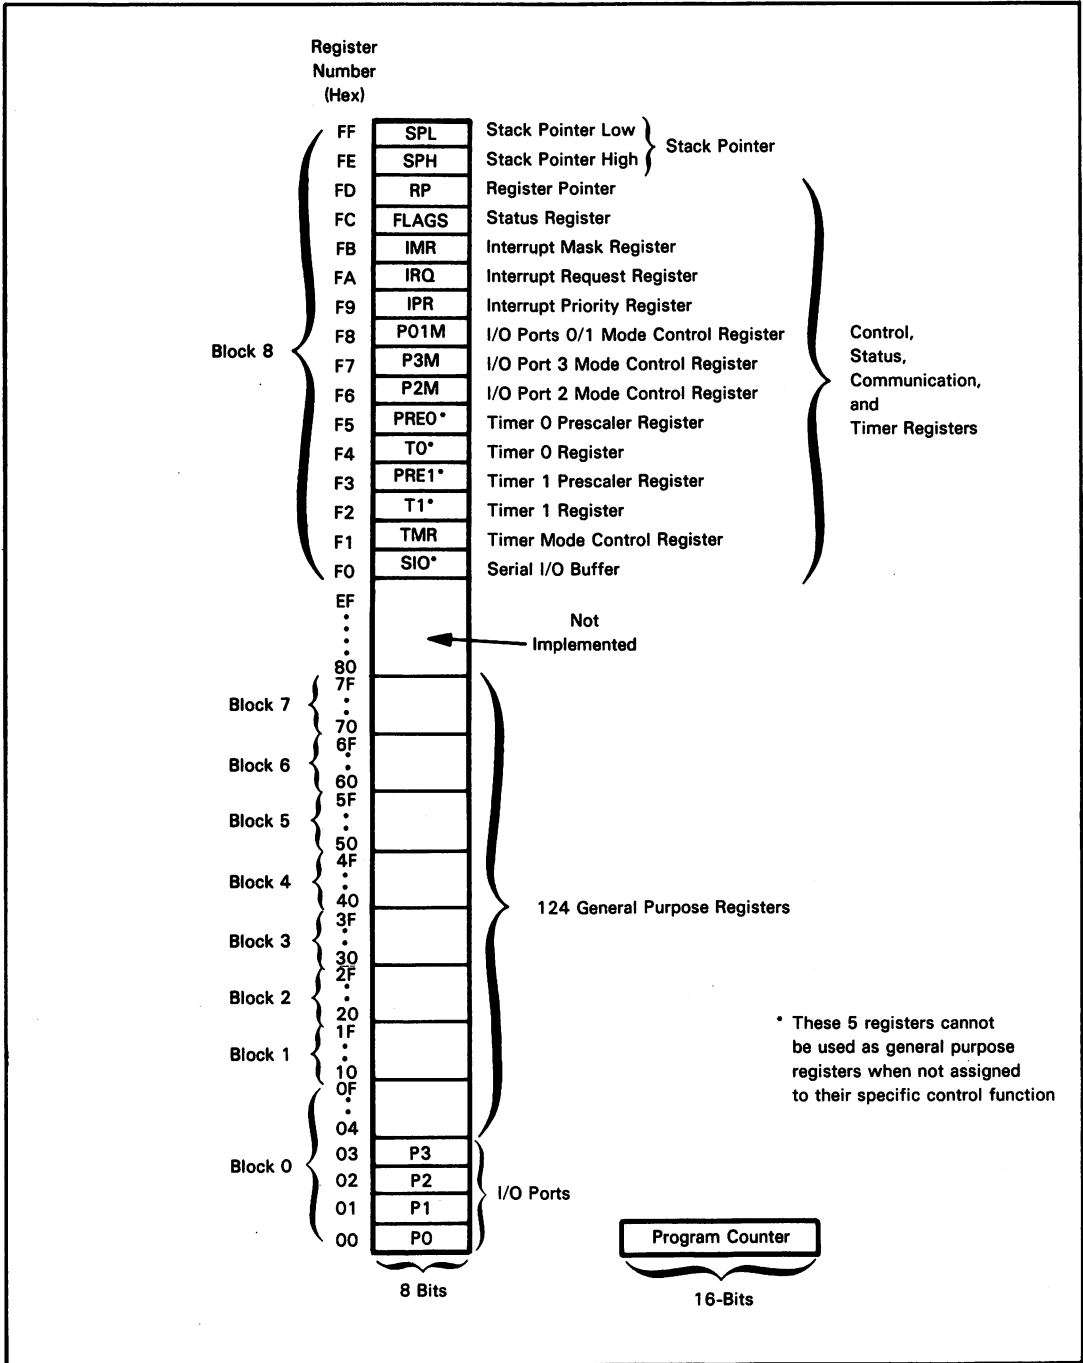

Figure 8-4. Z8 Microcomputer Internal Registers
**We will begin our discussion of Z8 memory addressing by looking at the 144 on-chip registers, which are illustrated in Figure 8-4.**